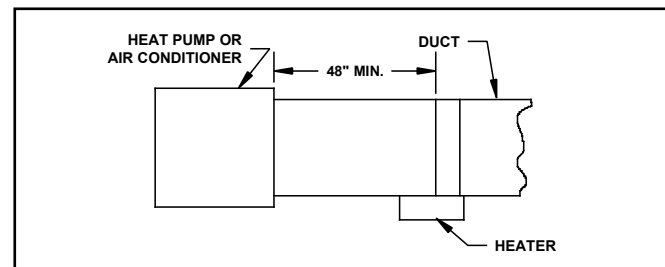

FIGURE 3.1.2 PLACEMENT: LOCATION REQUIREMENTS
6. Always locate the heater at least 48" from an ERV, heat pump or central air conditioner. (See Figure 3.1.2)